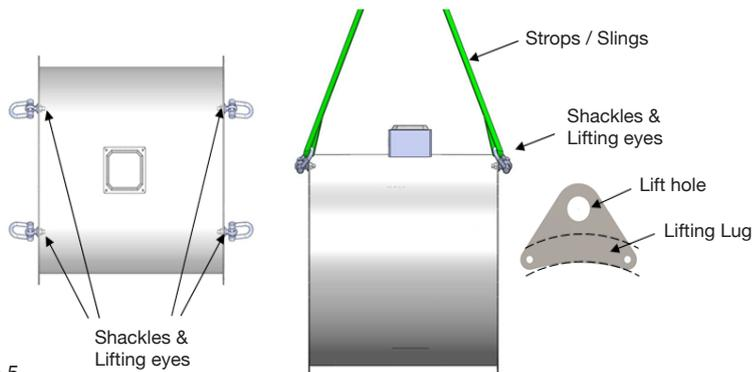

Figure 5.
1. Sufficiently rated strops and shackles must be securely fitted to evenly spaced flange holes as per Figure 5. Allowing for even load distribution across all lifting points. Where provided, lifting Lugs must be used in conjunction with shackles, strops and slings. Appropriate spreader bars should be used to minimise lateral strain on lifting lugs. Manufacturer recommendations for strop and shackle angles should be taken into account.